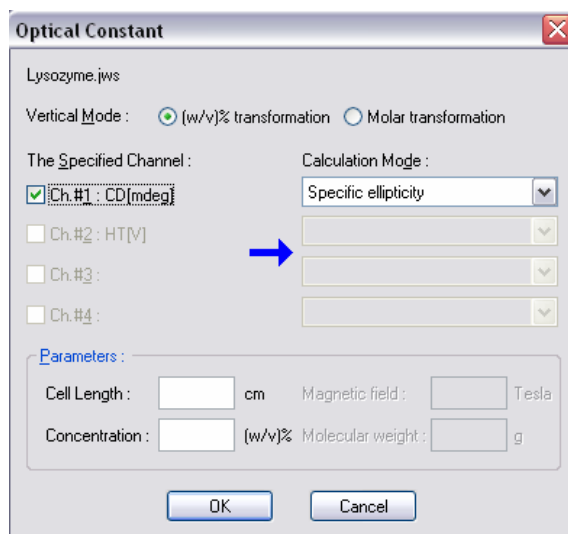
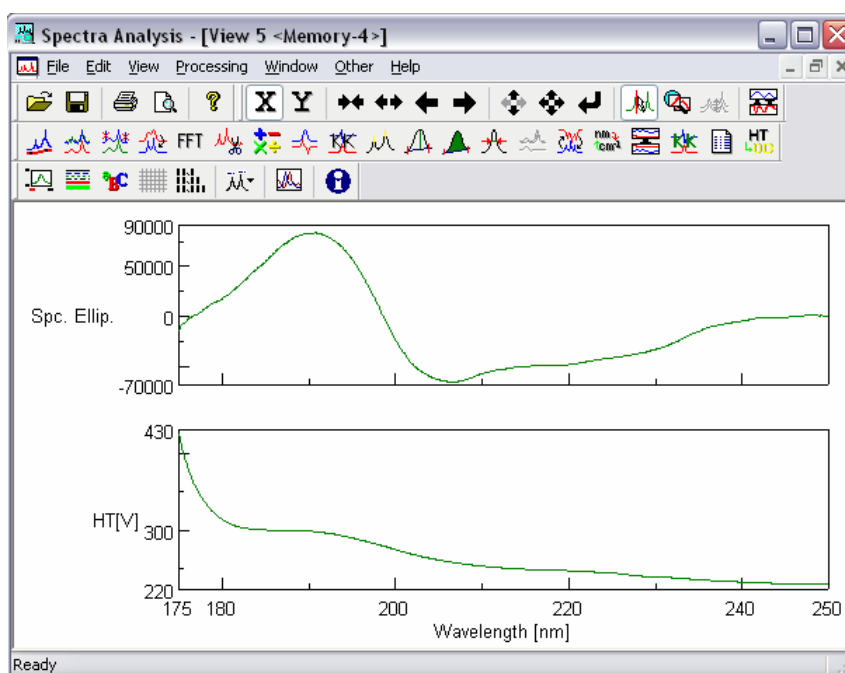

Figure 7.13 [Optical Constant] dialog box
Figure 7.14 Spectrum View (after calculation)
- (3) Select [(W/V)% transformation] or [Molar transformation] as desired.
- (4) Put a check mark in the Ch # box where CD (mdeg) is displayed (CH#1 in Fig. 7.13, for example).
- (5) Enter the desired cell length (cm) and the concentration (w/v)% in the [Cell Length] and the [Concentration] boxes.
- (6) Click the <OK> button. The [CD] is changed into [Spc. Ellip.] (see Fig. 7.14).